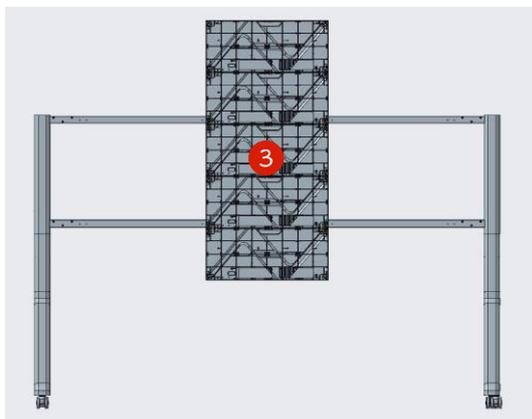

Figure 1
(as shown in Figure 1), install the box columns in order and lock the left and right connecting bolts on the box (as shown in Figure 2)
Step 3: Use 58 M8X20 fixing screws to install the box within the leveling connection piece (as shown in Figure 1), use 4 M6X35 screws